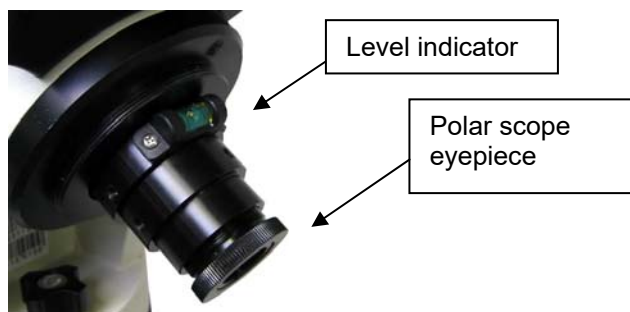

Figure 15. Polar scope with bubble level indicator
- (1) Level the iEQ45 Pro mount. Make sure the telescope optical axis is parallel to the polar axis (R.A. axis) of the mount. If using a finder scope, adjust it to be parallel to the telescope optical axis. Remove both the Polar Axis Cover and Polar Scope Cover.
- (2) Thread the polar LED into the threaded hole located on the Polar Scope. Connect one end of the polar scope power cable to the illumination LED and the other end to the Reticle socket located on main control board. Turn the mount power on. Use the Hand Controller ("**Settings**" => "**Set Eyepiece Light**") to set the illumination intensity.
- (3) Use the ▲ or ▼ key to turn the DEC axle to unblock the Polar Scope view.
- (4) Adjust polar scope eyepiece shown in Figure 15 to bring the polar scope dial in focus.
- (5) Use the ◀ or ▶ key to adjust polar scope dial to ensure that 12 o'clock is at the top. If the polar scope is equipped with a bubble level indicator, you may use the bubble as the reference. You may release four R.A. clutch screws and hold the OTA while rotate the Polar Scope. It is also convenient to rotate the polar scope before loading the CW and OTA.